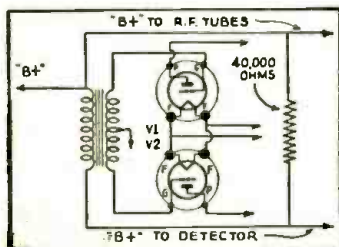

Fig. 1. Defective input transformer.
Fig. 1, left. A—Normal voice frequencies with peak levels below the feedback threshold. B—Voice frequencies exceeding the feedback threshold and causing sustained feedback. C—The envelope of the voice frequency pattern of detail A. D—Envelope of voice frequency pattern bursting into audio howl. E—Envelope of signal fed into the howl suppressor. Note the effect of the suppressor which rectifies the peaks and continually pushes the signal level back to the safe pick-up region. (A) Feedback region. (B) Range of howl suppression. (C) Areas including (B) of useful operation. F—This curve shows the normal action of a full wave rectifier. The section of the wave below the zero line is transposed above the line by the rectifier. G—This is the action of a biased rectifier
Radiola, Models 80 and 82. The presence of plate voltage on the detector tube of the above receivers does not necessarily indicate a good input transformer! Voltage will be present even if the transformer is completely open. The reason for this is shown in Fig. 1, and knowledge of this fact will save the Service Man a lot of worry and unnecessary testing when working on this particular receiver.